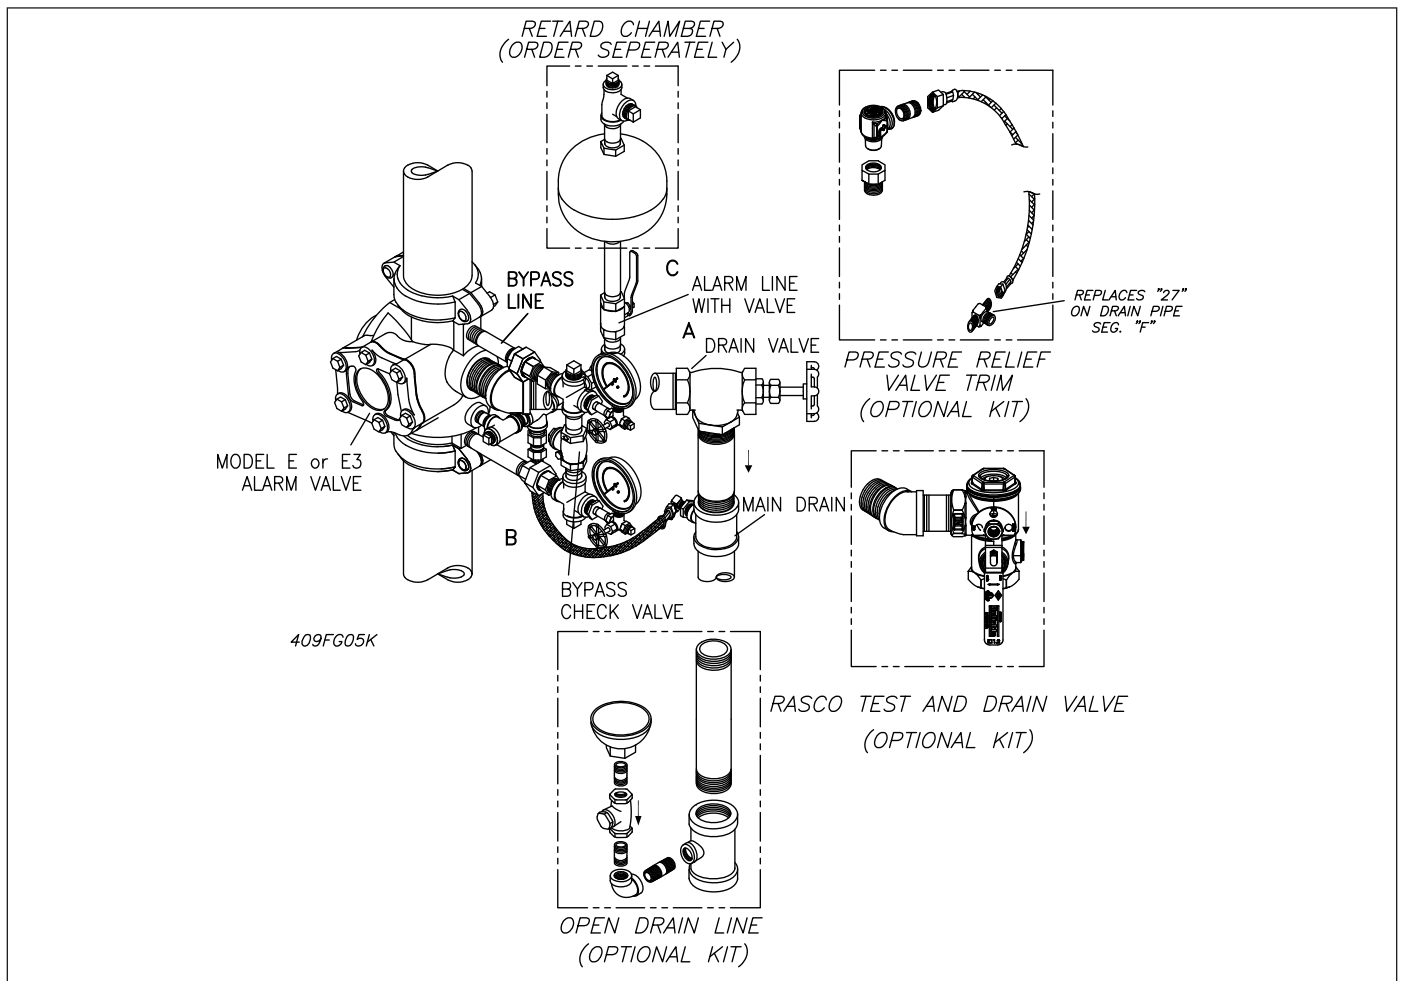

Fig. 3
- a. The By-Pass connection with Check Valve (Figure 3 & 4) allows pressure surges from the supply to by-pass the Alarm Valve Clapper. An excess system pressure is thus created which steadies the Clapper. Should a heavy surge unseat the Clapper and permit water to flow into the alarm line, the Retard Chamber then comes into action.
The E3 trim sets for the Reliable Model E Alarm Valve (Figs. 3 & 4) are arranged for rapid, easy and compact attachment, and serve as connection points to Reliable alarm and other devices. They also act as a means for testing the system to operate. The Model E alarm valves are available in two trims and may be installed in the vertical or horizontal position in the main supply to the wet pipe system:
- **Variable Pressure with Open Retard Chamber Drain —** Retard chamber is required. Optional Drain Line Kit required (see Figs. 3 & 4). This trim set is used where water supply pressures vary. An open drip cup is provided to drain the retard chamber and the mechanical sprinkler alarm line. This drain connection should be piped separately from the 2" main drain.
- The trim set permits both vertical (Fig. 3) and horizontal (Fig. 4) installations.
- A Reliable TD test and drain valve segment is optional, to be purchased separately, as a replacement to the Drain valve (see optional Kit in Figs. 3 & 4).
- All trim sets can be fitted with an optional Pressure Relief Trim Kit (see optional kit in Figs. 3 & 4) to relieve pressures above 175 psi in the sprinkler system, as required by NFPA 13 2010 edition and newer.